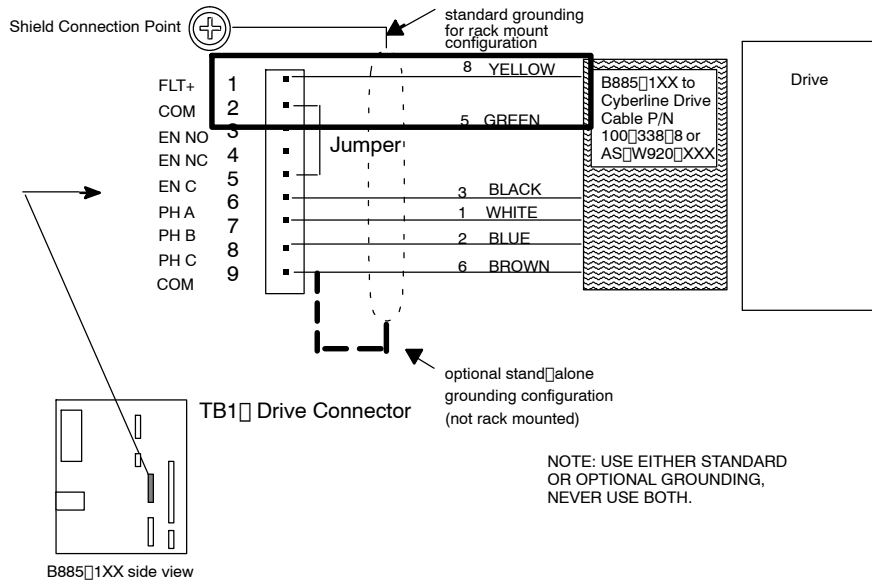
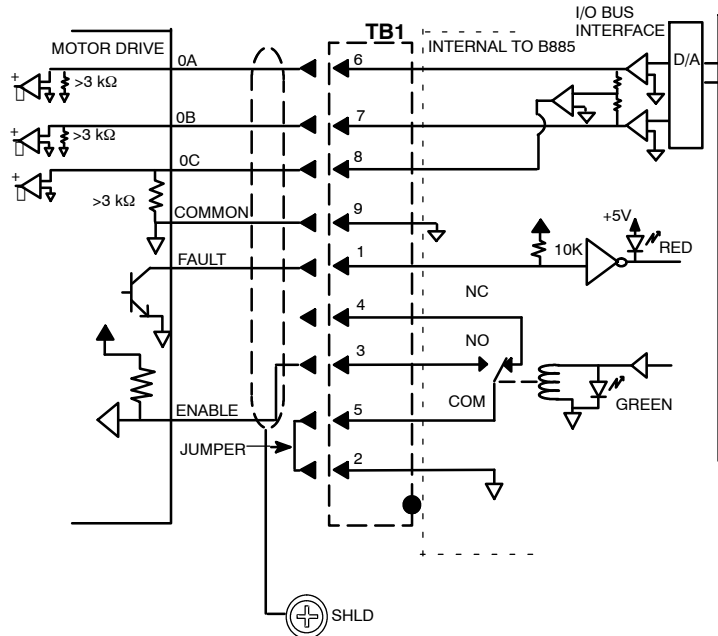

Figure 30 Drive Fault Test Points on the motion module
Figure 31 Motor Drive Wiring TB1
Step 1 Using a dc voltmeter, measure the drive fault signal at the B885-1XX between TB1-1 (FLT+) and TB1-2 (COM). When there is no drive fault, the drive pulls this signal low (<+1 Vdc). When there is a drive fault, this signal goes high (+10 ...+15 Vdc), assuming the drive has power. Refer to Figure 30 and Figure 31.